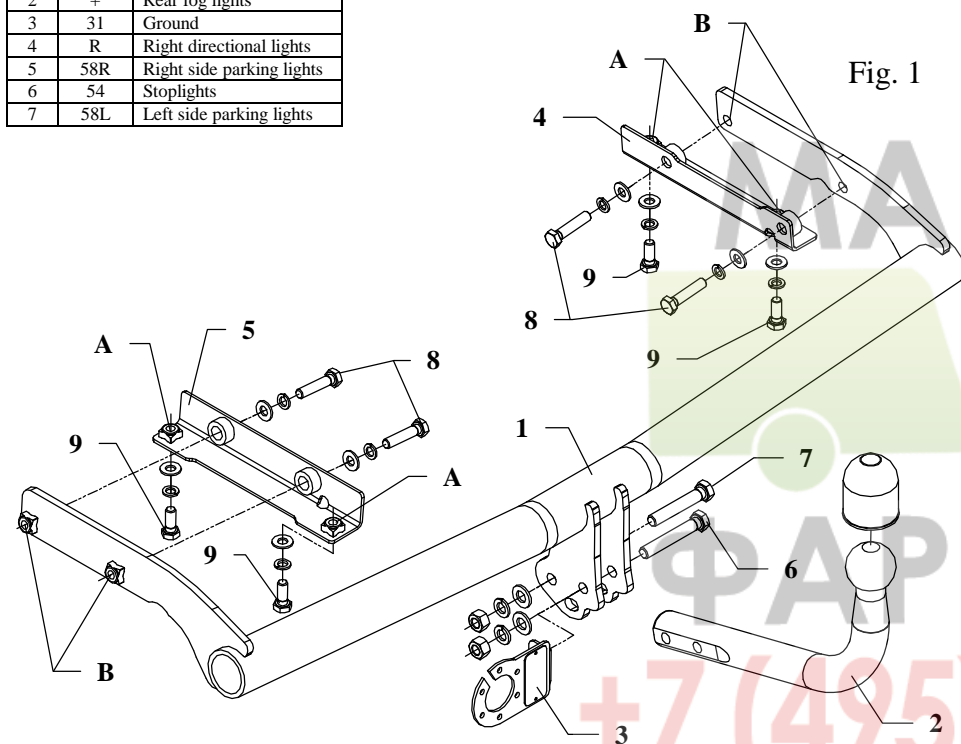

Fig. 1
3. Put fish-plates (pos. 4 and 5) in this way so holes in fish-plates agree with original holes prepared by a car producer. Fish-plates fix loosely in points (pos. A) using bolts M10x25mm (pos. 9) from towbar accessories.
4. Put main bar of the towbar (pos. 1) to chassis frame. Fix using bolts M10x45mm (pos. 8) through holes (pos. B) as shown on the figure 1.
7. Fix tow ball (pos. 2) using bolt M12x75mm (pos. 6) and M12x70mm (pos. 7). With bolt M12x75mm fix also a socket plate (pos. 3). See figure 1.